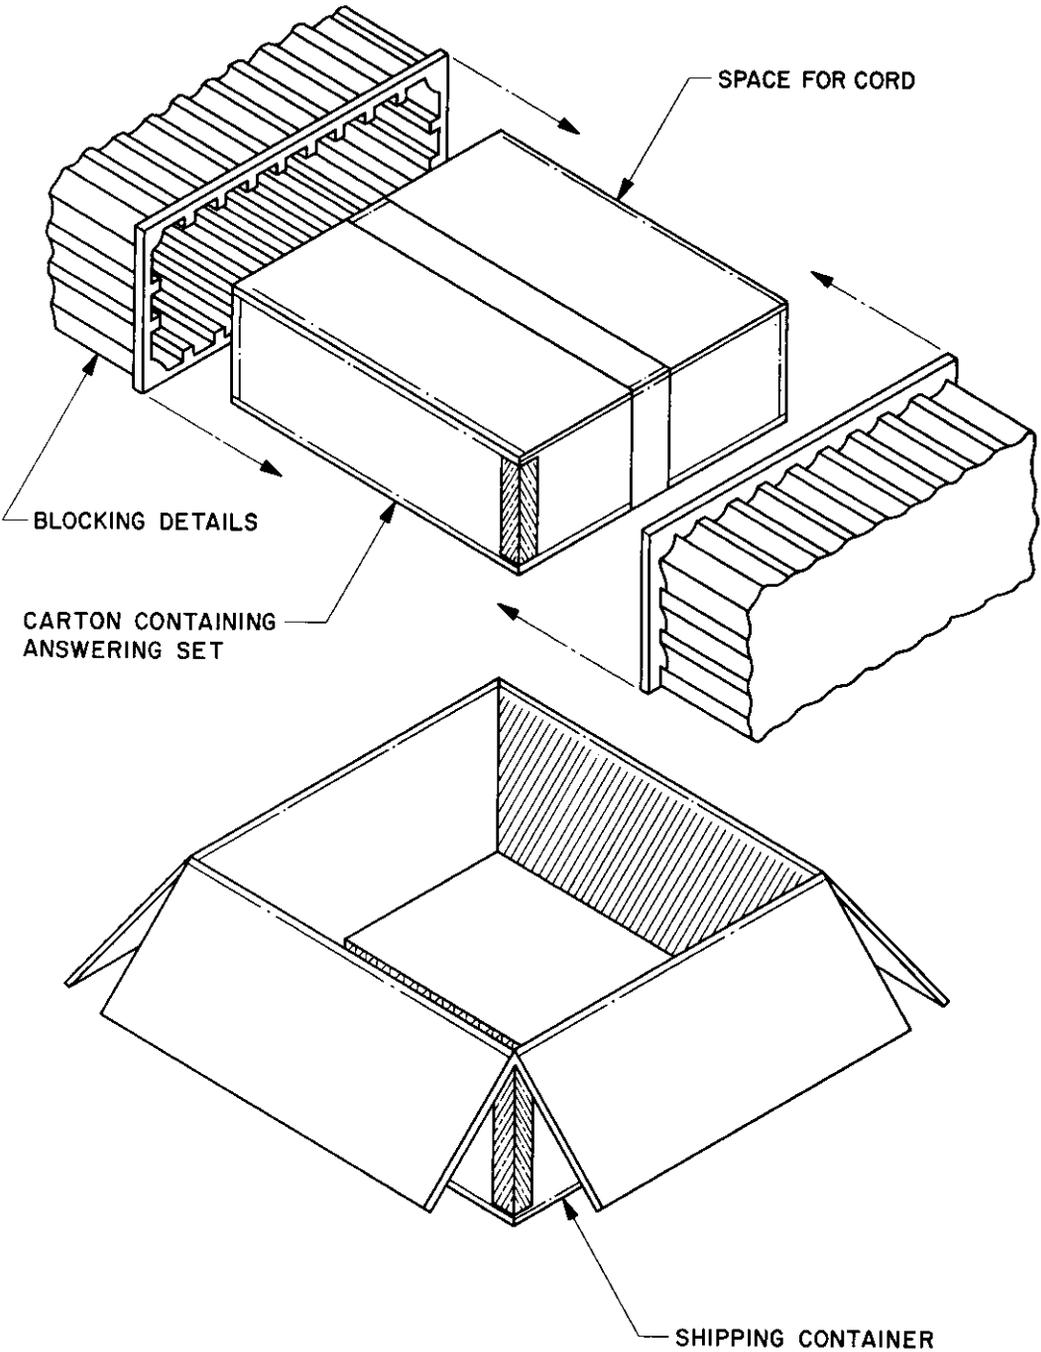

Fig. 2 — Shipping container for KS-19245, List 1 Telephone Answering Set
- (5) Block the ends of the carton containing the answering set with two end caps constructed of molded pulp and positioned as shown in Fig. 2.
- (6) Insert carton into shipping detail and place power cord in space between container side and top walls as shown in Fig. 2.
- (7) Close and seal flaps of shipping container.